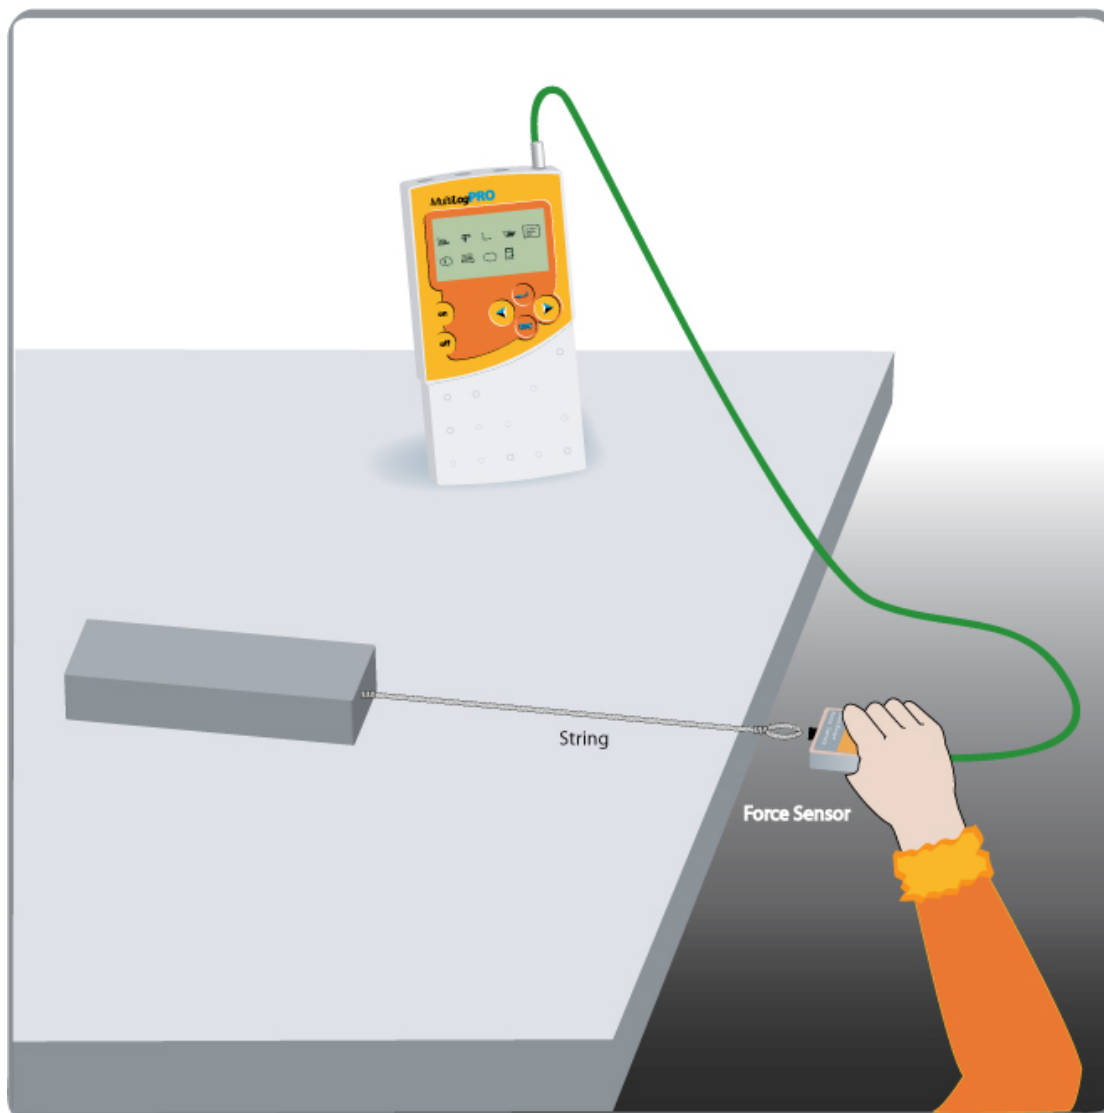

Figure 1
4. Assemble the equipment as shown by figure 1